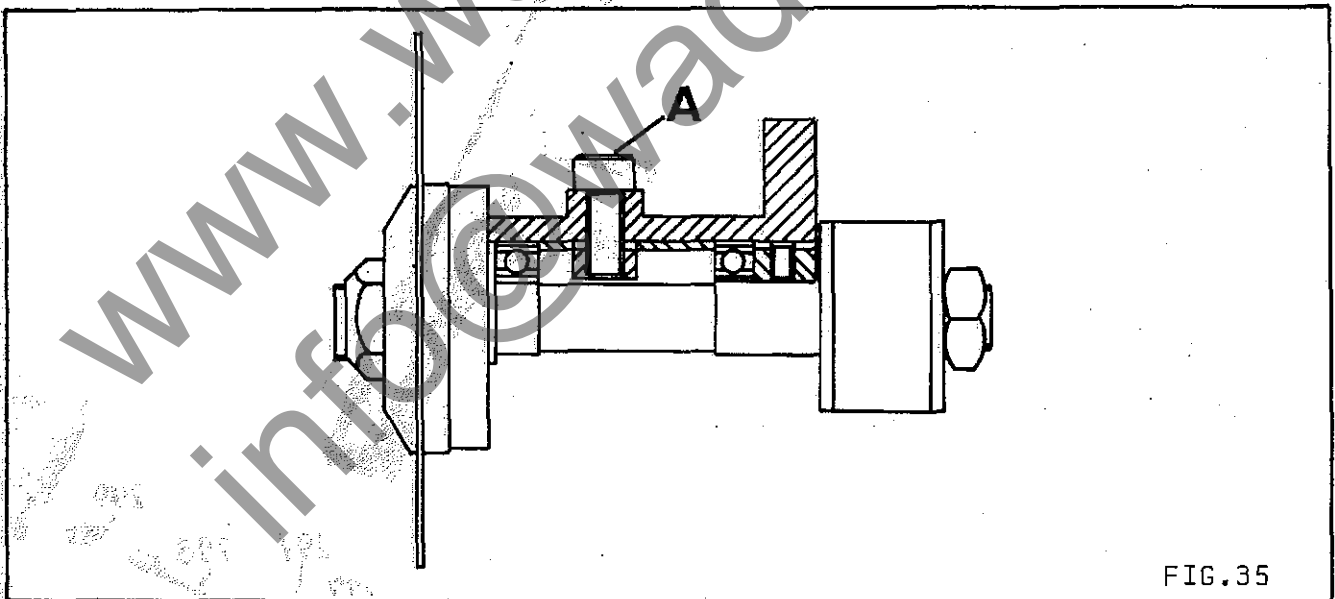

FIG.35
- 1) Loosen the socket head capscrew "A" in FIG.35 with 8mm allen key (supplied with machine) and tap spindle (with hide face hammer) as required, taking care not to damage the threads on spindle ends.